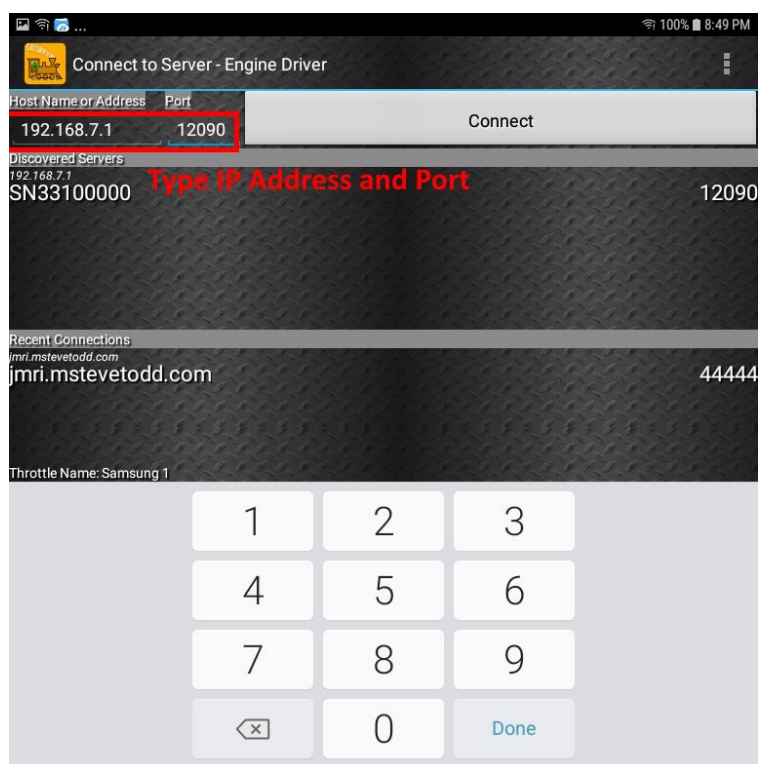

Figure 18 Connecting manually to the WFD-31 WiThrottle Server
- (11) **Only if the WFD-31 is not discovered** for some reason, after waiting a few moments, you must type the IP Address of the WFD-31 unit always 192.168.7.1 in the “Server Address” box at the top-left and the port value of 12090 in the port textbox as Figure 18, then tap the “Connect” button.